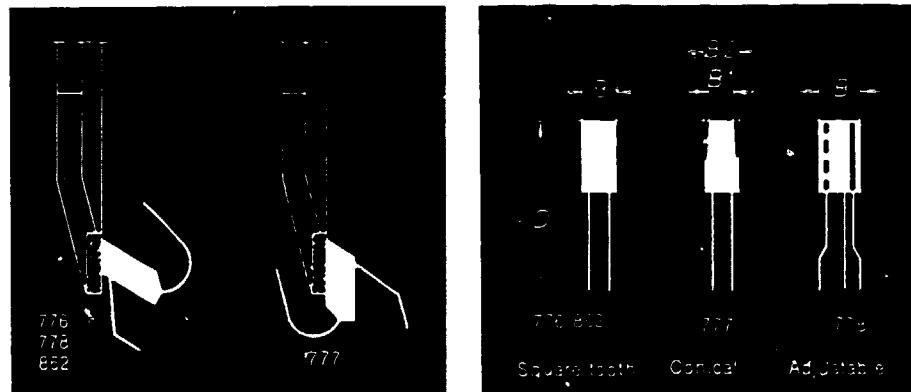

FIGURE 6
### Adjustable scoring sawblade (figures 6 and 7, item 778)
Conical (or trapeze) scoring sawblades (figures 6 and 7, item 777)